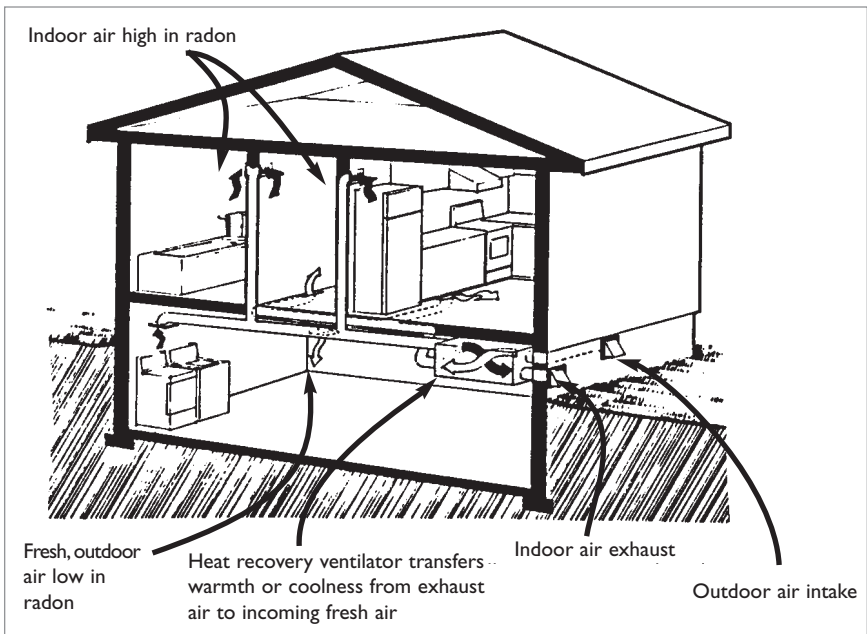

Figure 14: Increasing ventilation with a HRV
Rather than relying upon natural air movement to remove radon from a home, mechanical ventilation can be used. A system with balanced intake and exhaust air flows is essential so that the house is not depressurized, which may draw in more radon. This can be accomplished by installing a heat recovery ventilator (HRV) (*see figure 14*).
- Install a balanced ventilation system, such as a heat recovery ventilator (HRV). A balanced system relies on both supply and exhaust fans to provide ventilation (*see figure 14, page 23*). An HRV will reduce the energy penalty associated with providing more ventilation to a home.